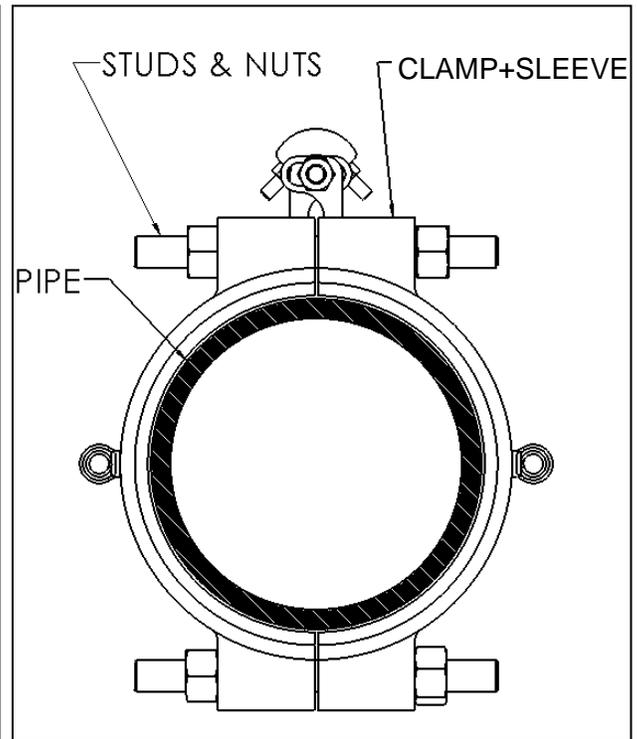

Figure 11
6. Once the fitting is wrapped around the pipe, insert the studs through the bolt holes and thread on the nuts as shown in Figure 11. Proceed to tighten the studs and nuts per these installation instructions.